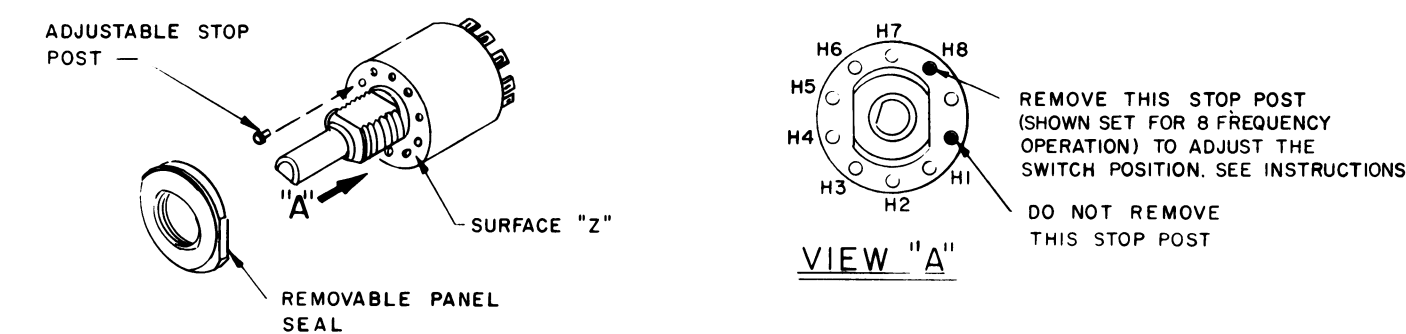

Figure 1 - Stop Post Adjusment
- Unscrew the panel seal to gain access to the stop post (see Figure 1).